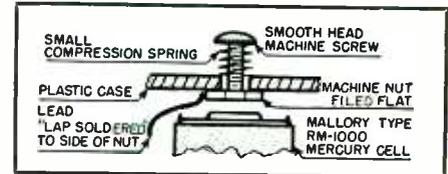

Fig. 3. Mechanical details for building the key to be used with the oscillator.
**Assembling the "key":** The construction of the miniature "key" is clearly visible in the photographs and in the side view sketch given in Fig. 3. Required parts are a small machine screw (preferably one having a smooth head), a small compression spring, and a nut to fit the machine screw used.